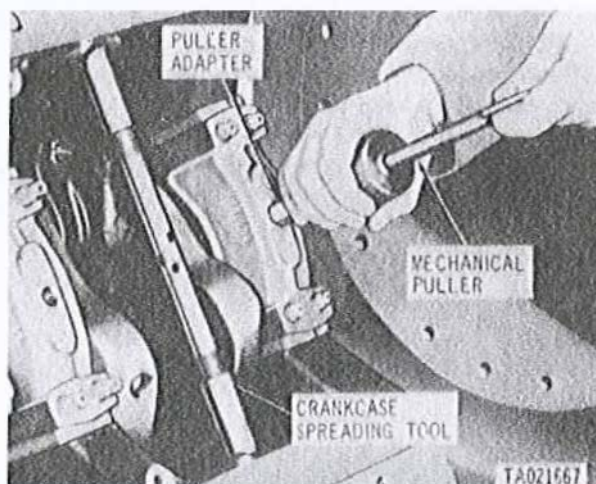

Figure 3-130. Removing main bearing cap using crankcase spreading tool, mechanical adapter and mechanical puller.
d. Install crankcase spreading tool Part No. 8708361 (fig. 3-130) in crankcase assembly midway between two main bearing caps. Tighten spreading tool just enough to release pressure of crankcase from ends of main bearing caps. Install mechanical puller Part No. 8708712 in mechanical adapter Part No. 8375091. Install puller adapter into threaded hole provided in No. 1 main bearing cap. Gently tap the main bearing cap free of the crankcase using the slide hammer on puller. Remove main bearing cap and lower main sleeve bearing half and separate the bearing half from the cap. Mark sleeve bearing half with its respective location, using a grease pencil, for identification; e.g., "1 cap," "2 cap," etc.